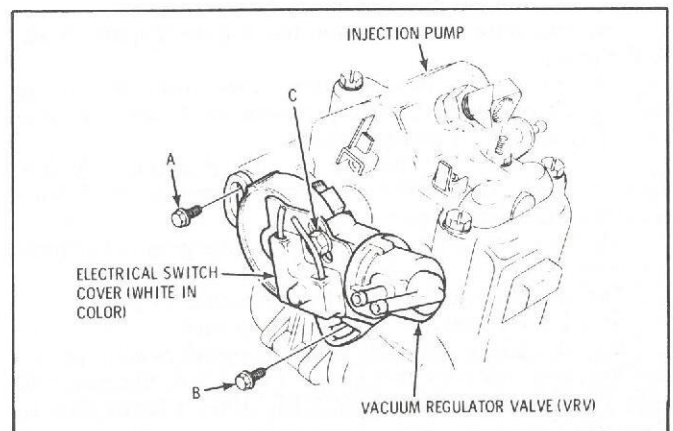

Fig. 6C5-1—Vacuum Regulator Valve Electrical Switch Identification
THROTTLE LINKAGE ADJUSTMENTS -V8 (FIGURE 6C5-6, 1982 CHASSIS SERVICE MANUAL)
The additional steps below must be performed if the Vacuum Regulator Valve has a WHITE colored electrical switch cover-see Fig. 6C5-1;
23. Unplug the connector from the fast idle cold advance (engine temp.) switch and install a jumper between the connector terminals - Do not allow the jumper to touch ground. (Figure 6C5-13 of the Chassis Service Manual.)
24. Check the fast idle solenoid speed against the one given on the "Vehicle Emission Information Label." Reset if required, see Figure 6C5-5, of the Chassis Service Manual.
27. Loosen VRV cover adjustment screw with a 5/16" wrench (Screw "C", See Fig. 6C5-1)